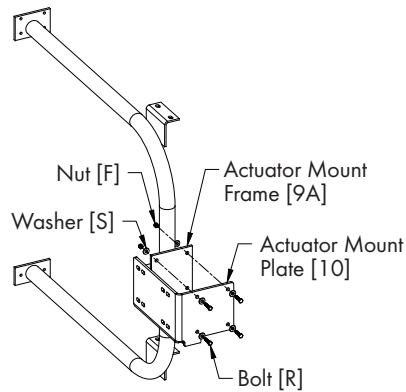
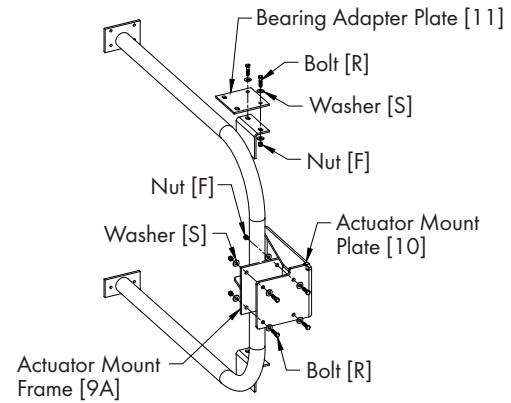

Figure 27A
Figure 27B
Find the Center Actuator Mount Frame [9A]. The Mounting Plate with 4 holes is the Upper Mounting Plate and the one with 2 holes is the Lower Mounting Plate. If actuator will be mounted on left end of the Tunnel Doors, fasten Actuator Mount Plate [10] to Actuator Mount Frame [9A] so that the Actuator mounting surface is on left side of Frame using (4) Bolts [R], (8) Washers [S] and (4) Nuts [F]. See Figure 27A. If actuator will be mounted on right end of the Tunnel Doors, fasten Actuator Mount Plate [10] to Actuator Mount Frame [9A] so that the Actuator Mounting surface is on right side of Frame using (4) Bolts [R], (8) Washers [S] and (4) Nuts [F]. Also, mount the Bearing Adapter Plate [11] to the Frame using (2) Bolts [R], (4) Washers [S] and (2) Nuts [F]. See Figure 27B.